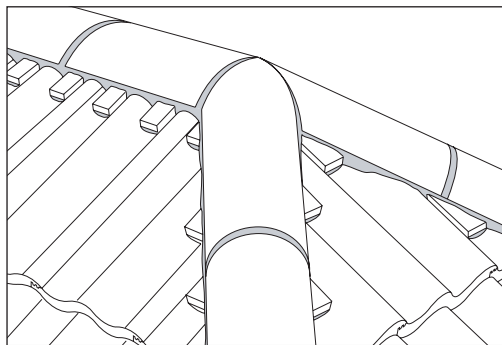

Fig 53 – At ridge hip junction, cut tiles with three-way mitre to ensure continuous line
- Mitre junction of hip and ridge using a standard three-way mitre and solid bed (Fig 53).